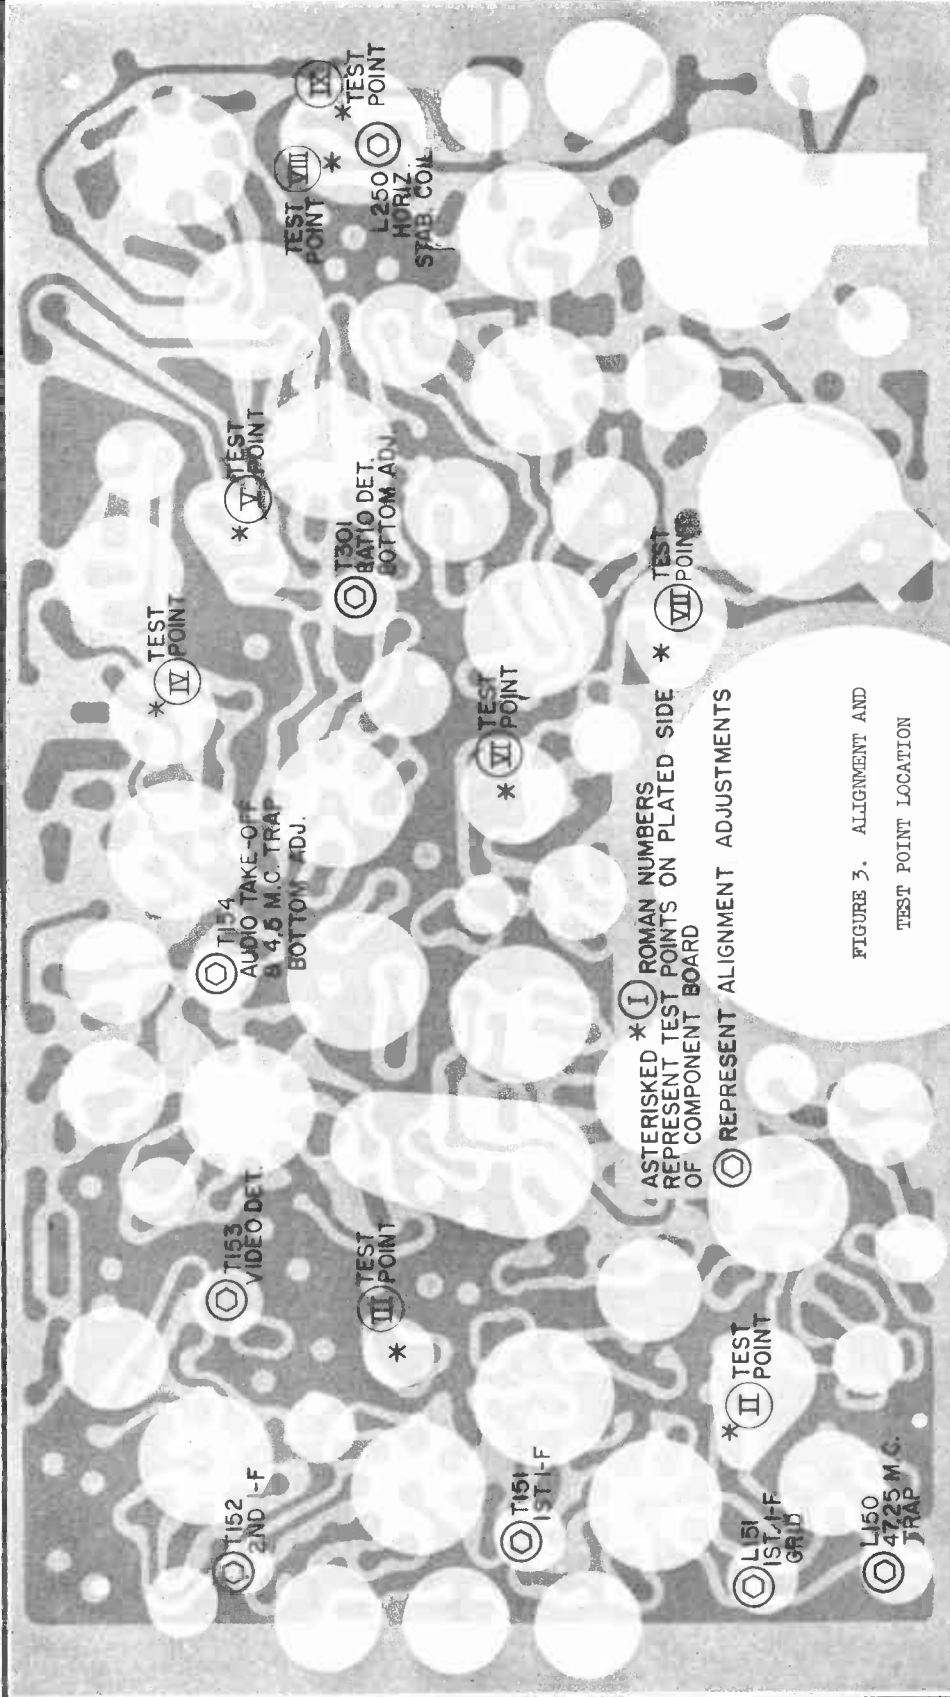

FIGURE 3. ALIGNMENT AND TEST POINT LOCATION
The alignment of the I-F system involves the adjustment of 1 trap and 5 pass-band tank circuits. Allow at least 15 minutes warm-up for the receiver and test equipment before proceeding. Follow the usual precautions regarding equipment termination and cable dress. Some tuning cores will apparently go through two peaks. In all cases, the cores should be tuned to the first peak starting from the "out" position. Adjustment locations are indicated in Figure 3.
2. Connect sweep generator to capacity, type jig shown in Figure 3. If General Electric sweep equipment is used, the indicated resistor should be omitted.